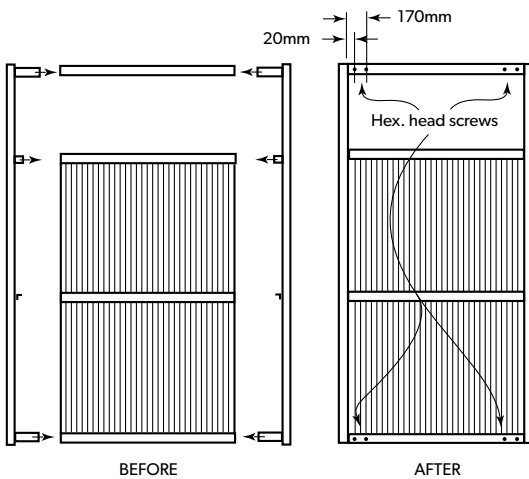

FIGURE 23.3:
3. Using tin snips, notch the four corners. The top and bottom notches are different (Figure 23.3). Lower top rail and gate lattice.
3. If your gate includes a 'PLUS Option' (lattice or slats), mark the position of the two lattice gate clips. Fasten the clips to the stiles using two hex. head screws #10-16x16 for each (Figure 23.3).
4. Mark the position of the two centre rail clips, with the inner edge of the clip 2mm from the centreline of the stile, and fasten them to the stiles using a hex. head screw #10-16x16 for each (Figure 23.3).